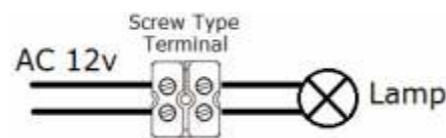

Figure 2-1
- Terminal blocks must meet the IEC60988-2-1 standard having the rated connecting capacity of 4,0mm² use of screw-type terminal at least 25A rated current, mounted on junction boxes inside. See Figure 2-1